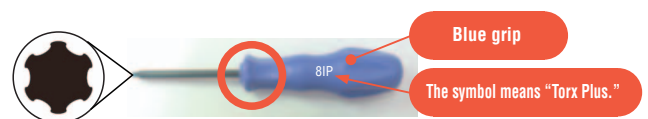

Fig. 1 "Torx Plus" Wrench (For MEW)
1) See Fig. 1 for "Torx Plus" Wrench. (Blue grip)